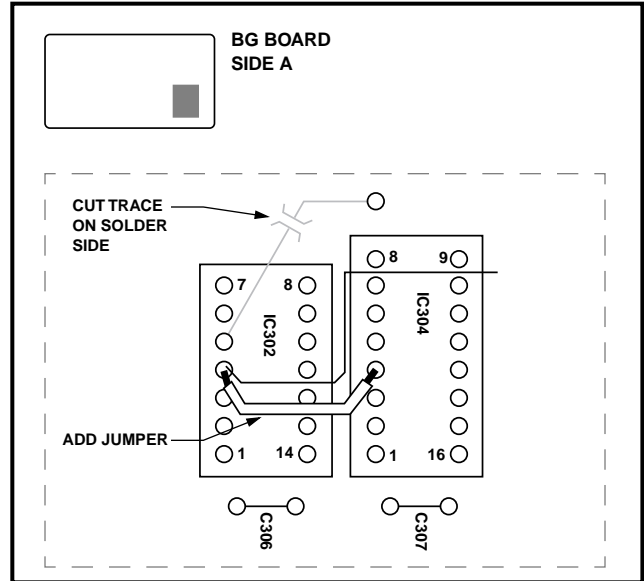

Figure 4
**BG Board, Side A (See Figures 4 and 5.)**